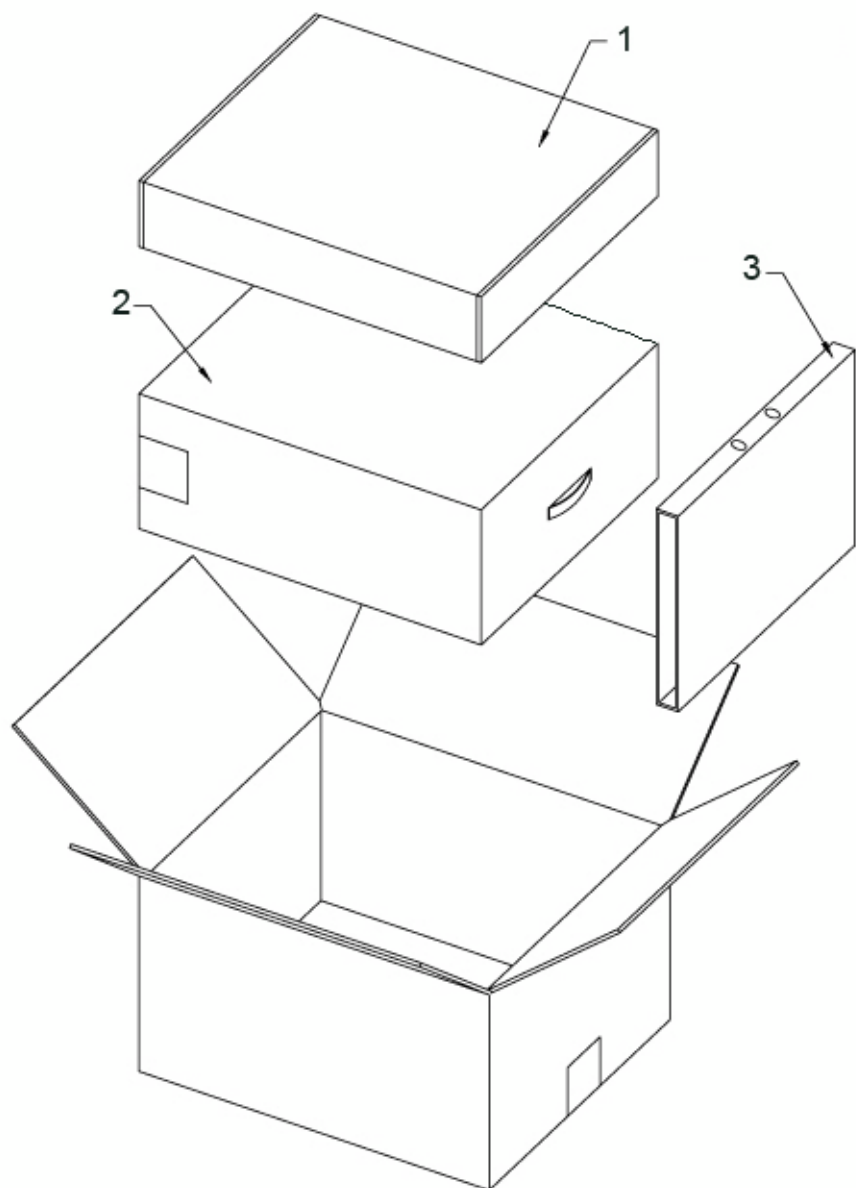

Figure 3-4   Unpacking Venue 40
- 3.) Take out the paper pad on the side. Refer to Figure 3-4 on page 3-5
- 4.) Take out the Accessories Package and Console Package. Refer to Figure 3-4 on page 3-5